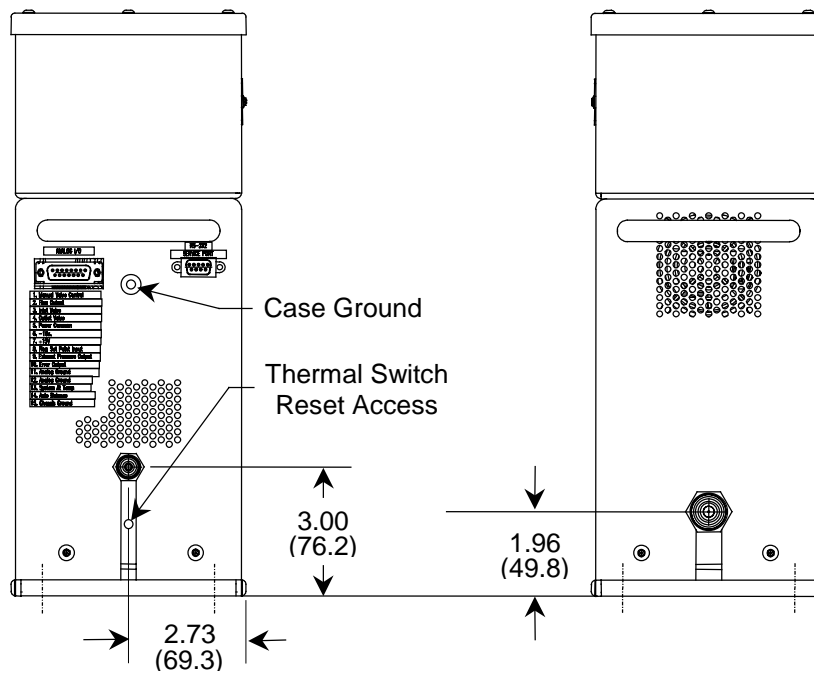
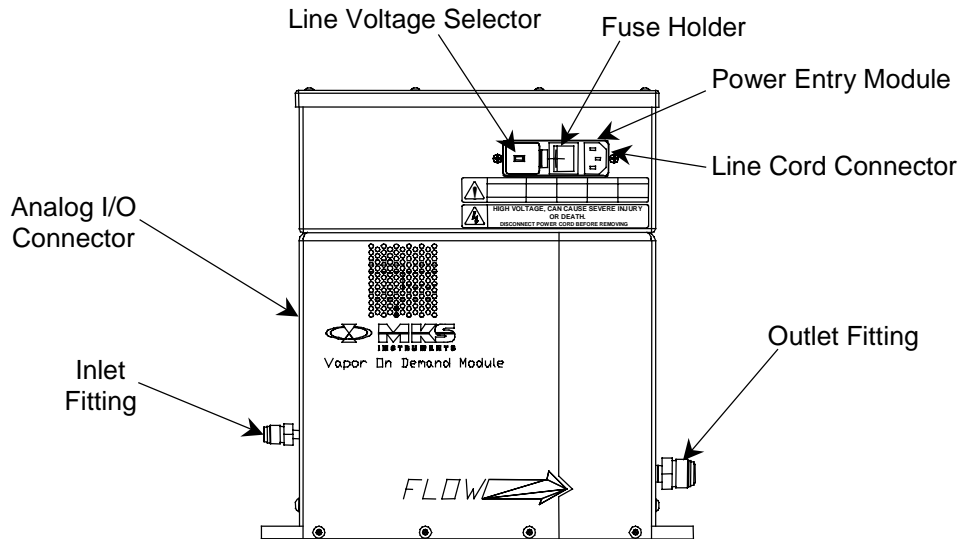

Figure 5: Side Views of the VoDM Unit
Figure 8: Front Panel Component Identification
- With very few exceptions, connectors must make good ground contact to the device's case. A 10-32 threaded insert is provided for this purpose, next to the I/O port (see Figure 5, page 24); connection to it using 12 AWG wire is necessary to achieve CEM Class B limits. "Good contact" is about 0.01 ohms. The ground should surround all wires. Contact to ground at just one point may not suffice.
There are two connectors located on the VoDM unit: an Analog I/O and an AC Power connector (refer to Figure 8). The pinout of the Analog I/O connector is listed on the inlet-side panel, as shown in Figure 5, page 24. The pinout for this connector is also listed in Table 5, page 29.
Refer to Figure 8, page 28, for the location of each component.